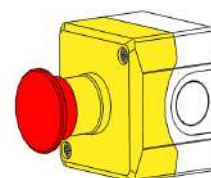

Figure 20 - Emergency Stop Switch
10. Press one of the Tray-mounted side Emergency Stops or the Funnel-mounted top Emergency Stops (Figure 20). The switch chosen should be varied each time the machine is used.